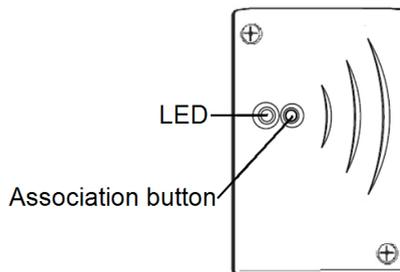
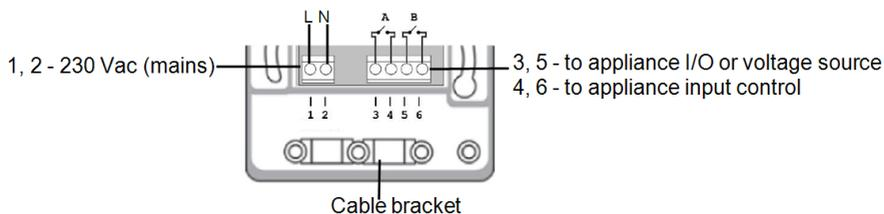
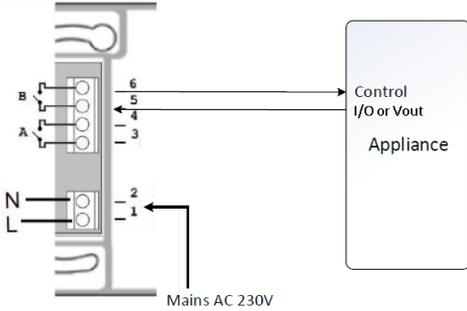
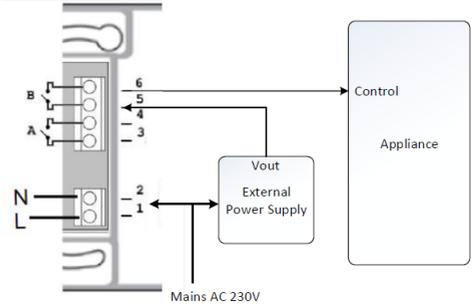

Figure 3: The Dry-Contact switch
Figure 4: Dry-Contact switch connections
Figure 5: Connecting to appliance with internal voltage source (Vout)
Figure 6: Connecting to appliance with external voltage source
5. Connect the load wires to the terminal blocks (see *Figure 4*, *Figure 5* and *Figure 6*):
- Dry-contact 250V / 13A maximum (connections 3, 5) - to a dedicated voltage source from the appliance (see *Figure 3*), or an external power supply according to the input control specifications of the appliance (see *Figure 4*).